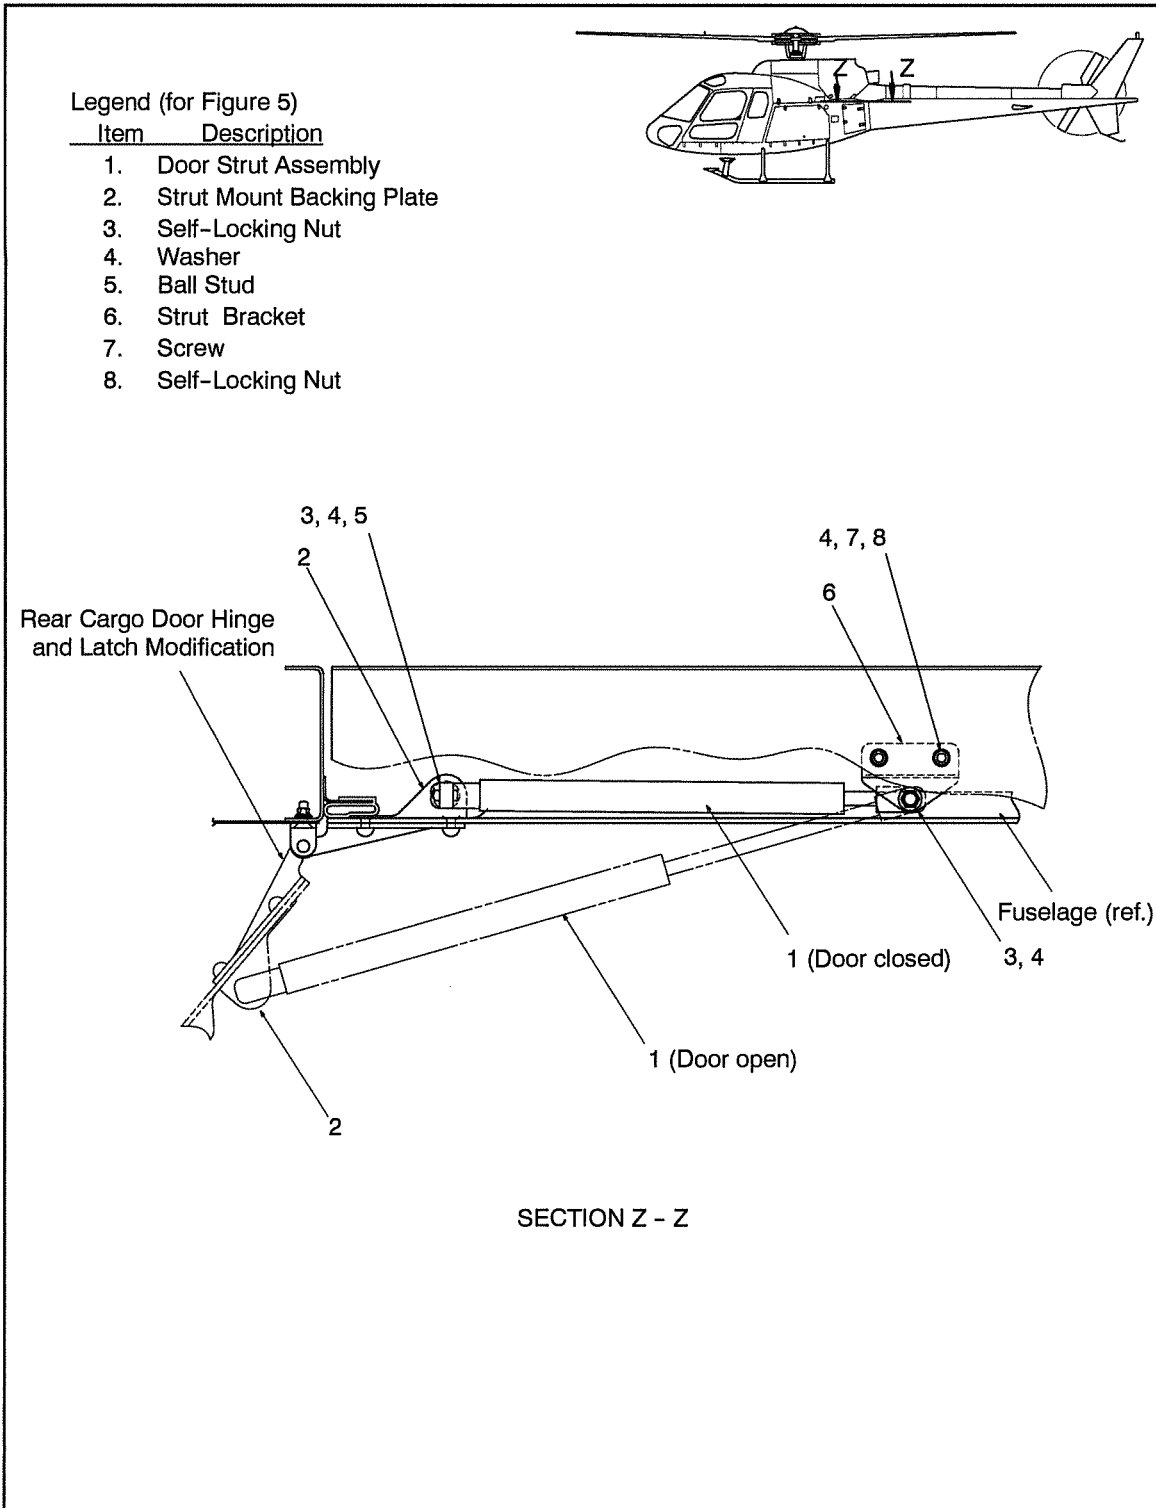

Figure 5 Strut Mount Backing Plate and Strut Assembly
- a) With door in the open position, disconnect strut (1) from the ball stud (5) located on the strut mount backing plate (2) by lifting the locking tab on the strut (1). Refer to Figure 5.
- b) Disconnect strut (1) from the strut bracket (6) by lifting the locking tab on the strut (1). Remove strut (1) from aircraft. Refer to Figure 5.